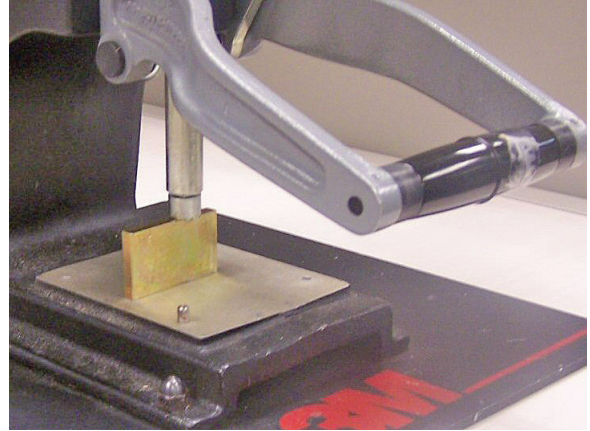

Figure 2
- 3.2 Lower the handle of the press until the handle casting makes contact with the press casting. (Figure 2)
- 3.3 Place the shut height gauge across the press base. (Figure 2)